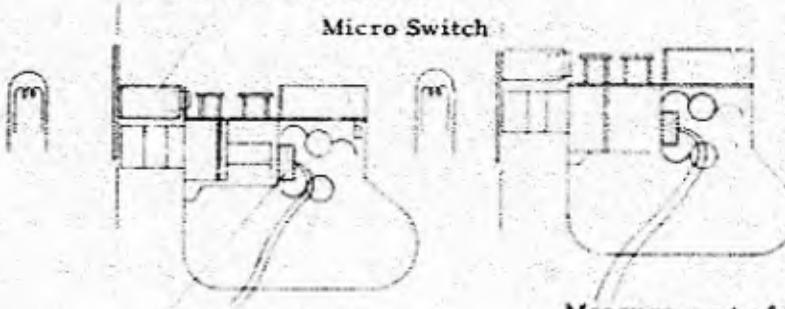

Fig. 81
- 7) When CdS Index Ring stops turning release your finger from Shutter Button, and place the main Lens (set at T and  $\infty$ ) at the center of the Inspection Device. And, measure the value of light volume on the film plane with the ohmmeter. See Fig. 81.